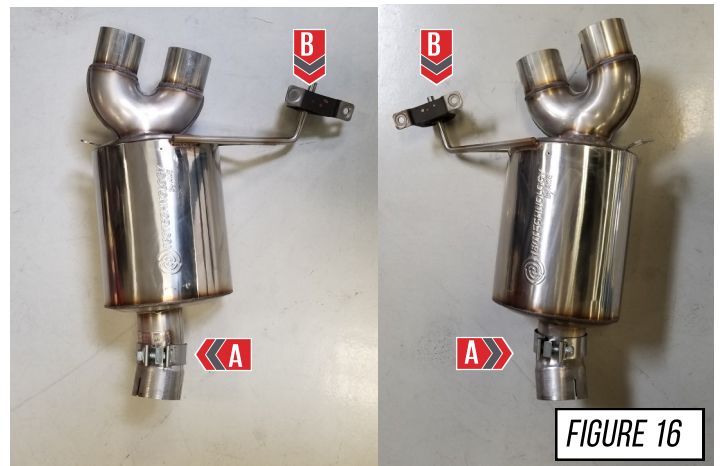

FIGURE 16
Install the factory rear hangers (B) and the Accu-Seal clamps onto your AWE driver and passenger side rear sections of the exhaust (A), as seen in **Figure 16**.